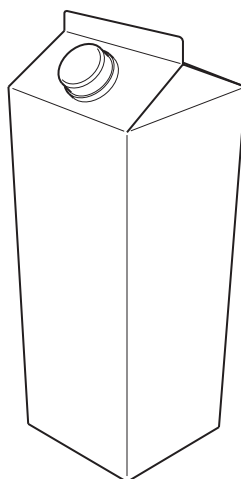

Fig. 4
4 Fig. 4 shows a carton designed to hold fruit juice.
- (b) (i) Draw a net of the carton shown in Fig.4. [4]